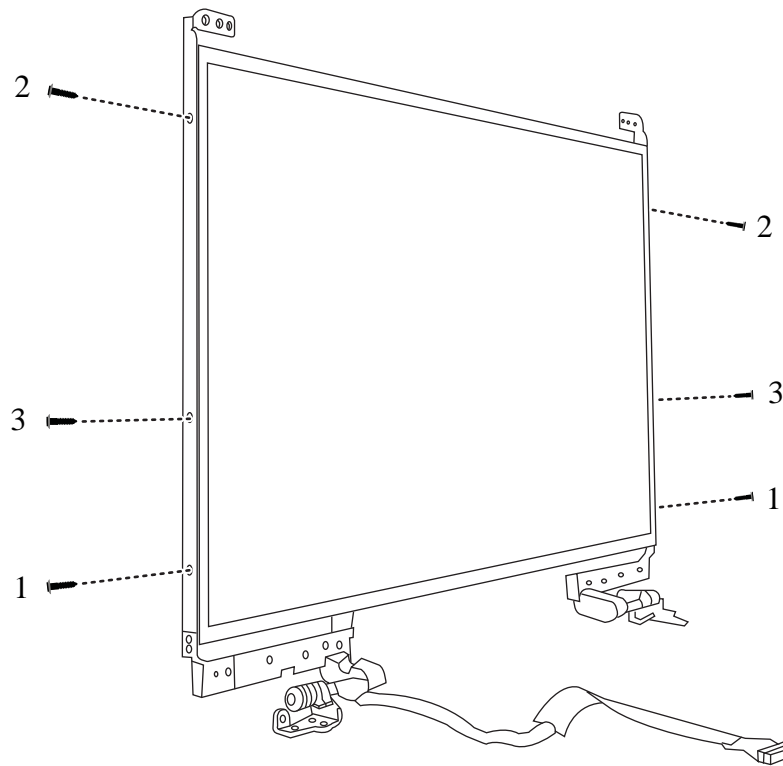

Figure 4.41 Removing the LCD Hinge Assembly
4. Remove six M2x3 screws according to the sequence indicated in the Figure 4.41, and then remove the LCD hinge assembly.